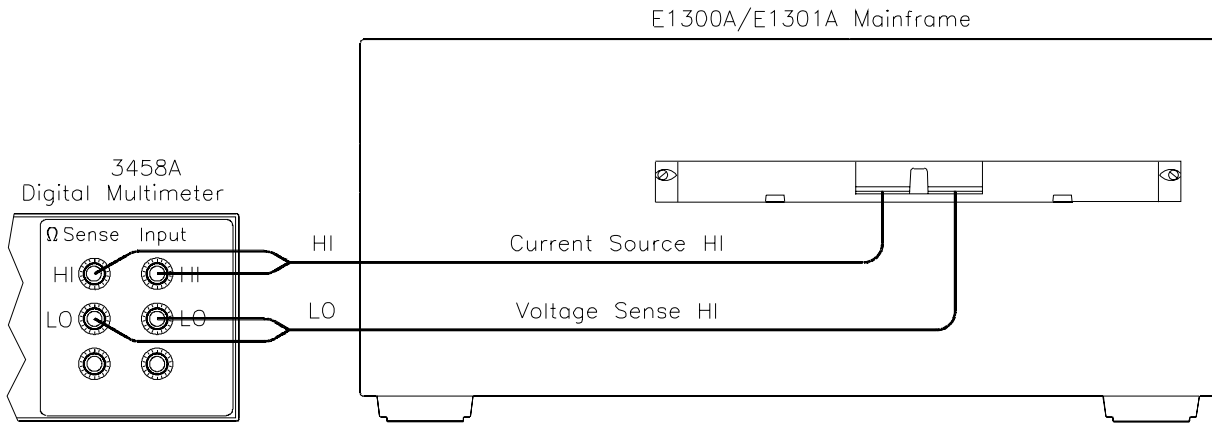

Figure 2-6. Ch 93 HI Measurement Connections
- Connect DMM leads as shown in Figure 2-6